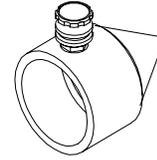

Figure 1-5. Steel Cone Point Base
b. **Steel Cone Point Base.** The steel cone point base (Figure 1-5) is basically a 3" (7.6 cm) standard base with a 3/4" (1.9 cm) pointed steel cone secured to the center of